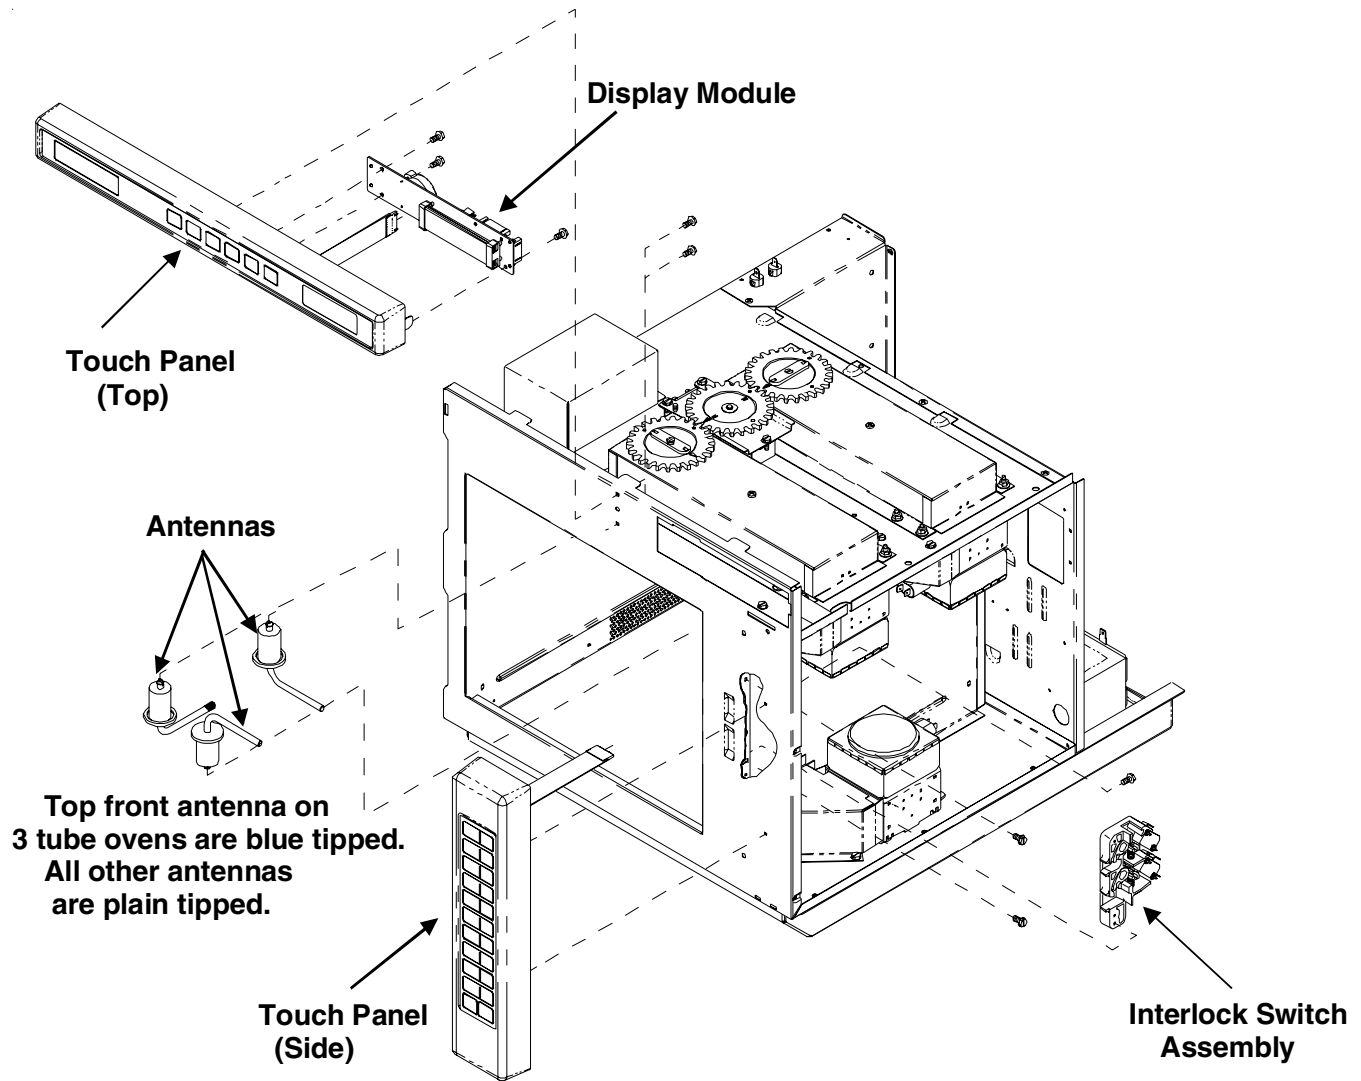

Figure 1
1. See "Component Location" Figure 1, for location.